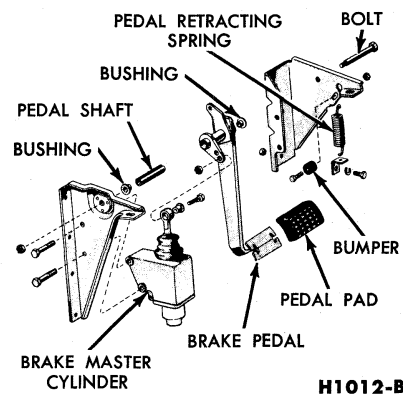

FIG. 21 —C-Series Brake Pedal
1. Remove the brake pedal retracting spring (Fig. 21).